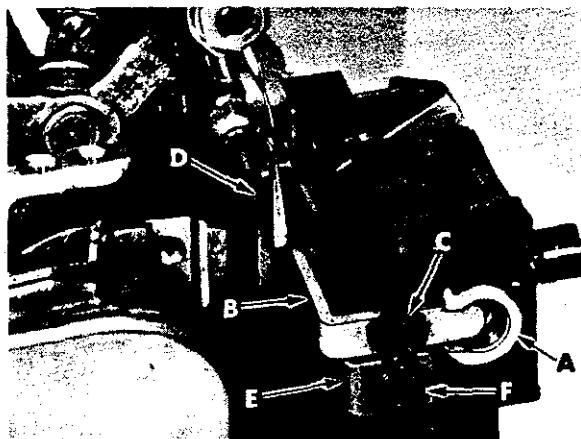

Fig. 9
Remove spring from inside of lower knife holder (A, Fig. 9), then reassemble knife holder (A) with rear needle guard (B) using screw (C) to hold guard in position. Replace rear needle guard (B) using screw (C) to hold guard in position. Temporarily tighten screw (C) to hold guard in position, yet allowing guard to be adjusted. Set guarding SURFACE of needle guard (B) as low as possible to prevent it from interfering with needle thread as loop is being formed to rear of needle(s), then tighten screw (C) securely. Guard must NOT interfere with lower knife holder movement or come in contact with lower looper/spreader at any point of travel.
Replace front needle guard (E, Fig. 9) using screw (F). Temporarily tighten screw (F) to hold guard in position, yet allowing guard to be adjusted. Rotate handwheel in operating direction until needle(s) is at lowest position. Set guarding SURFACE of needle guard (E) to needle(s) with minimum clearance - approximately .004 inch (.10mm) and tighten screw (F) securely. Check to ensure needle(s) is NOT being pinched between front and rear needle guards.